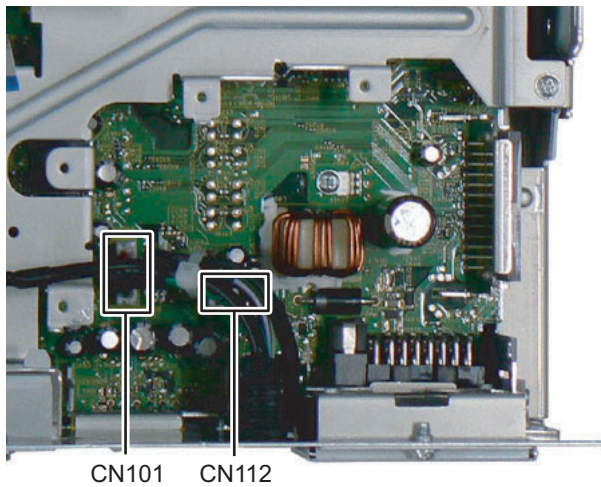

Fig.13
3.1.7 Removing the Rear panel (See Fig.13, 14)
- (1) Disconnect the connector wire from Car cable connected to connector CN101 of the Main board. (See Fig.13)
- (2) Disconnect the connector wire from FAN connected to connector CN112 of the Main board. (See Fig.13)